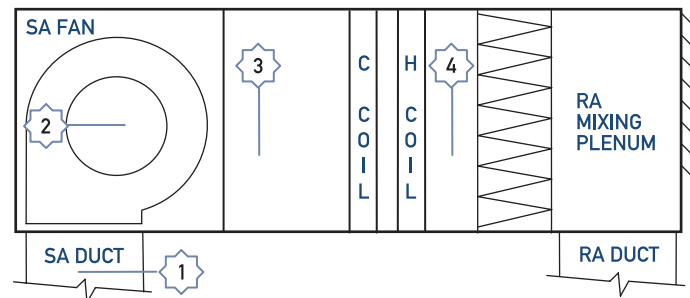

FIGURE 1 - SUGGESTED MOUNTING LOCATIONS IN TYPICAL AHU
- The units can either be installed inside an air handling unit or in the supply air ductwork. See figure 1 for acceptable mounting locations.